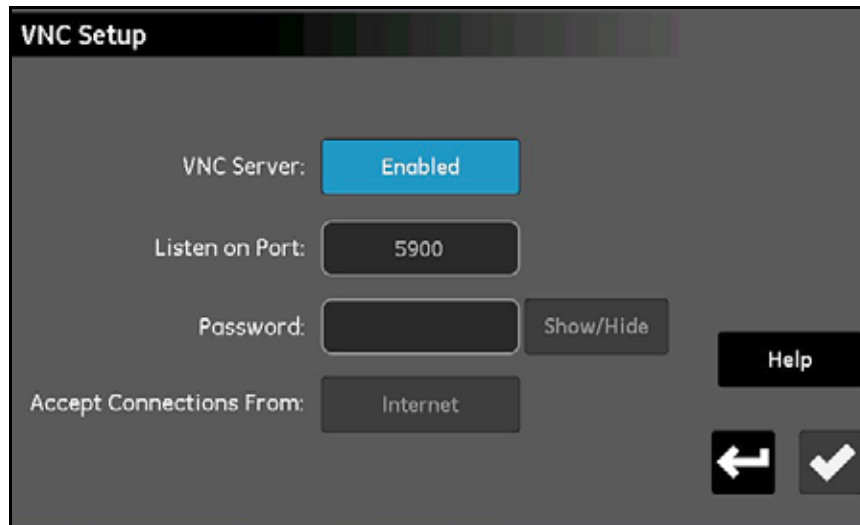

Figure 64: VNC Setup Screen
1. From the *Configuration Menu* screen (see *Figure 47* on page 53), tap the VNC button to open a *VNC Setup* screen similar to *Figure 64* below.